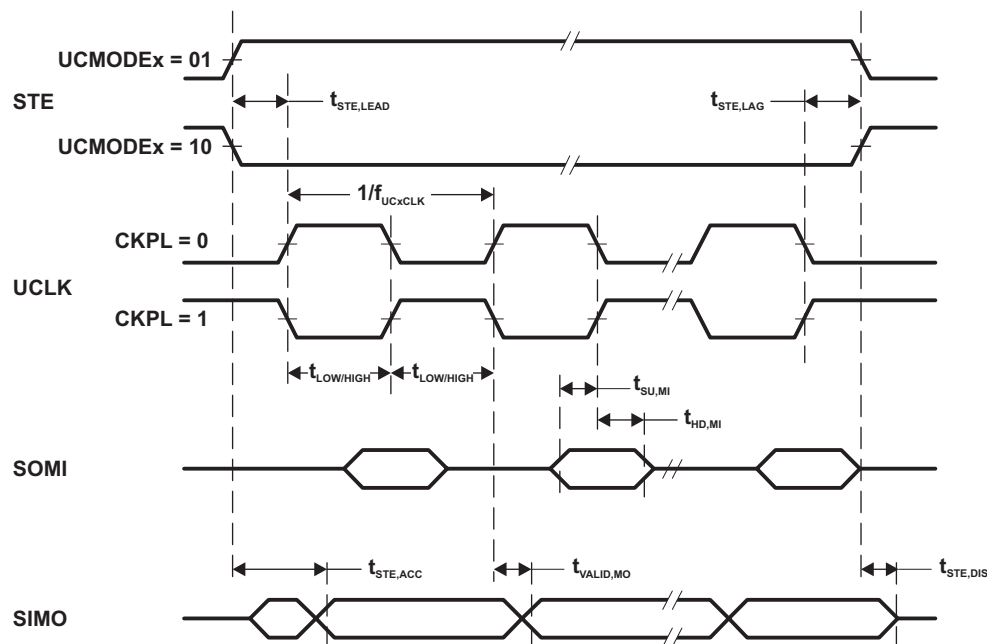
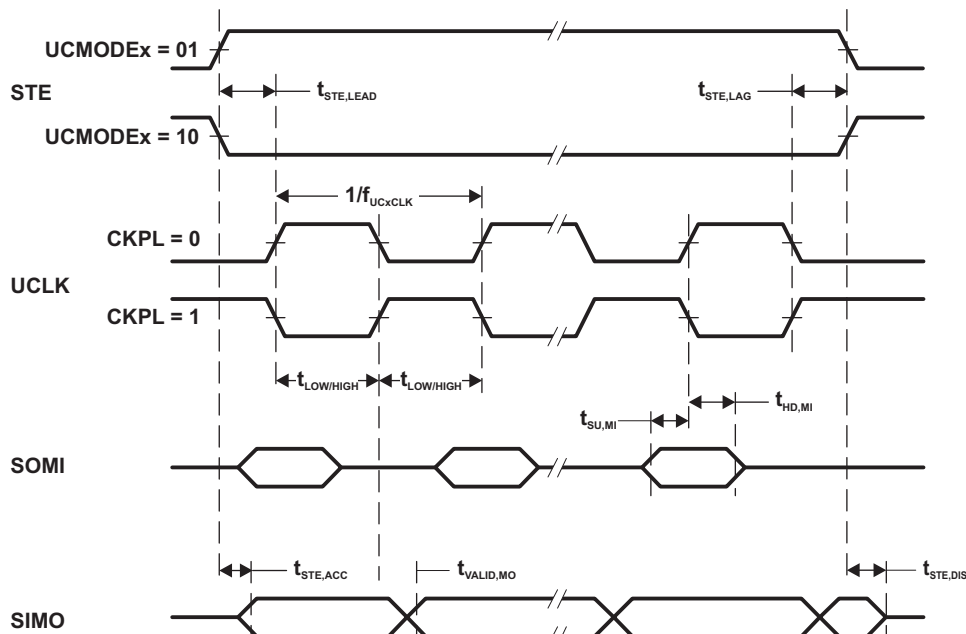

Figure 12. SPI Master Mode, CKPH = 0
Figure 13. SPI Master Mode, CKPH = 1
- (2) Specifies the time to drive the next valid data to the SIMO output after the output changing UCLK clock edge. See the timing diagrams in Figure 12 and Figure 13.
- (3) Specifies how long data on the SIMO output is valid after the output changing UCLK clock edge. Negative values indicate that the data on the SIMO output can become invalid before the output changing clock edge observed on UCLK. See the timing diagrams in Figure 12 and Figure 13.